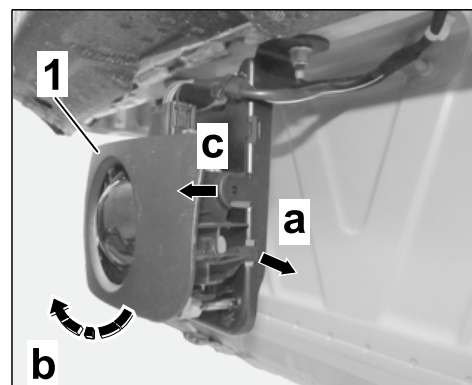

Figure 6
- 1.8.1 Release trim cover ⇒ *Figure 6*
-1- at the left and right ⇒ *Figure 6*
-arrow a- and swivel it up ⇒ *Figure 6*
- 1.8.2 Disengage trim cover at the top left/right ⇒ *Figure 6* -arrow c- from the holder and remove it.